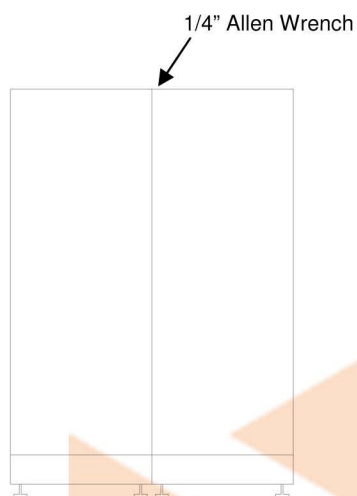

FIGURE 8
- D.** Move second panel to locate its top wedge block under the open half of top draw block and with bottom wedge block over the top draw block. See figure 8.
- E.** Tighten allen screw in top draw block of panel connector to 6-14 foot pounds. See figure 8.